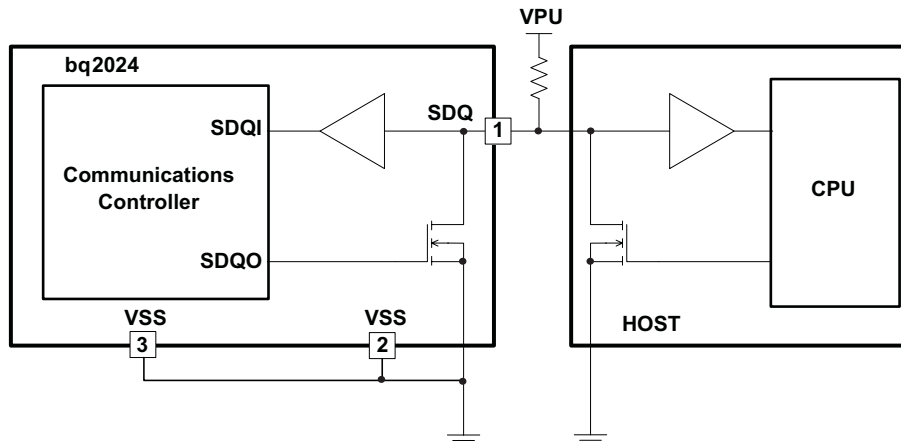

Figure 1. Typical Applications Circuit
(1) 5-kΩ series resistor between SDQ pin and VPU. (See Figure 1)
(2) tWDH must be less than tc to account for recovery.
Because the drive output of the bq2024 is an open-drain, N-channel MOSFET, the host must provide a source current or a 5-k $\Omega$  external pullup, as shown in the typical application circuit in Figure 1.